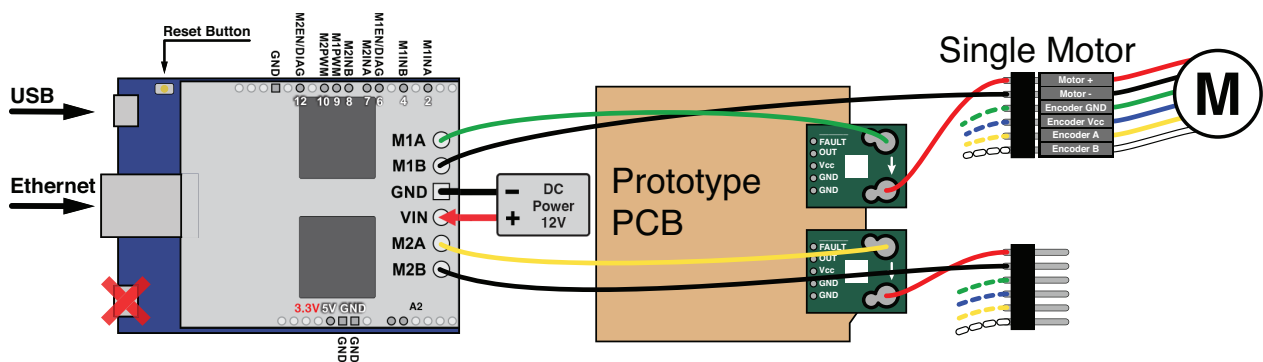

Figure 1: Wiring diagram of 1 Dof.
1. Wiring the experiment circuit as shown in Fig. 1:
6. **Make sure the DC power is turned off.** Flash the code to the FRDM board, and run the MATLAB script `K64_Impedance_Control_2Dof_matlab.m`. You should be able to see the digital twin of the cheetah leg on your screen. Move the leg by hand and notice the difference between the real robot and the visualization. Also, review the plots in Figures 1 through 3. **Demonstrate the result to a lab instructor for credit.**